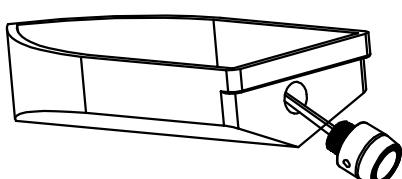
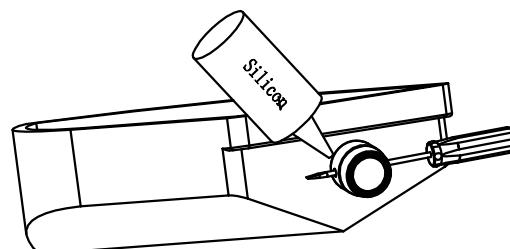

FIG 4
FIG 5
3. With the boat out of the water, remove your old 1/2" NPT boat plug, apply sealant around the drain hole and 3 mounting holes (Ref. FIG 4) and slide the wire through the drain hole (Ref. FIG 5).
4. Insert a screwdriver into the hole of the light and screw the light into the drain hole. Then apply the sealant to fill the gap between the light and the boat (Ref. FIG 5).